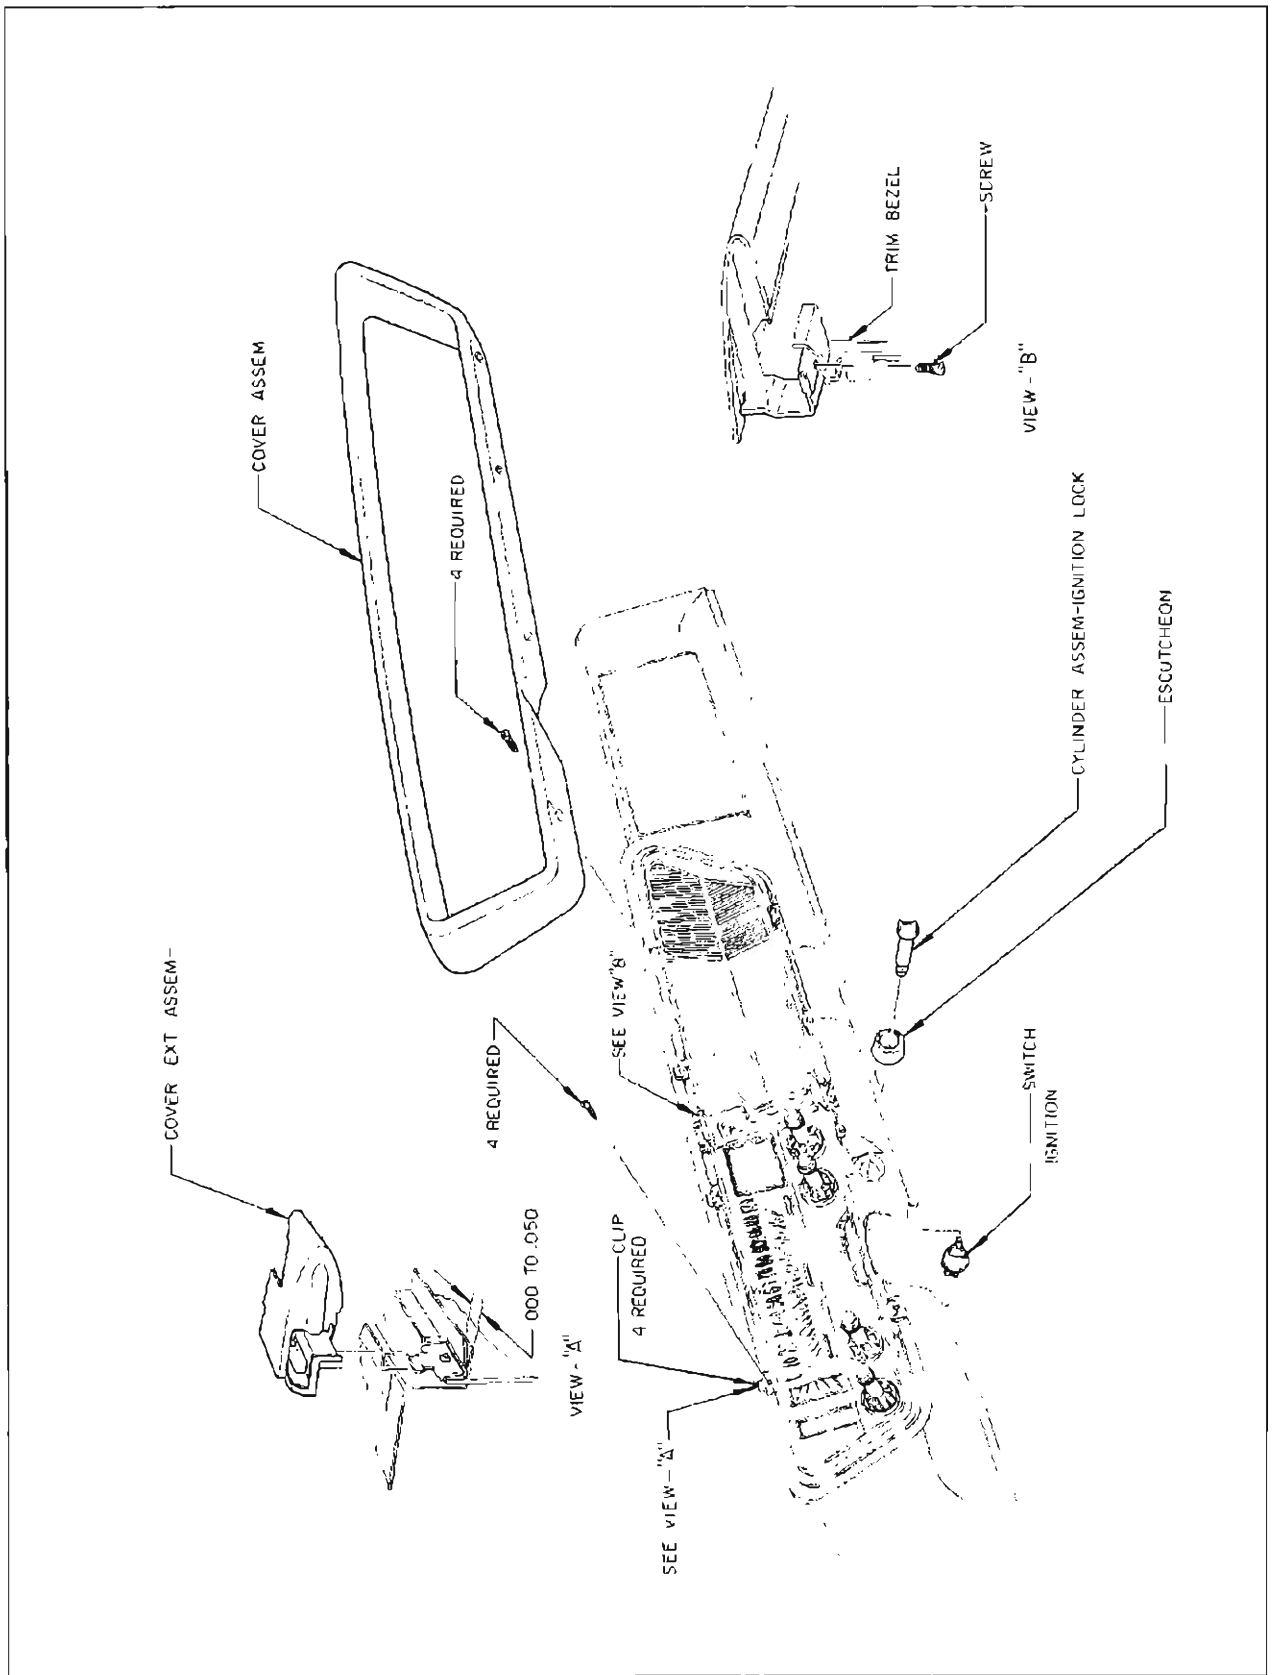

Figure 10-66—Instrument Panel Cover Extension and Ignition Switch Installation
1. Remove cover extension assembly by removing four screws across the bottom, then raising the entire extension to disengage it from four clips across the top. See Figure 10-66.